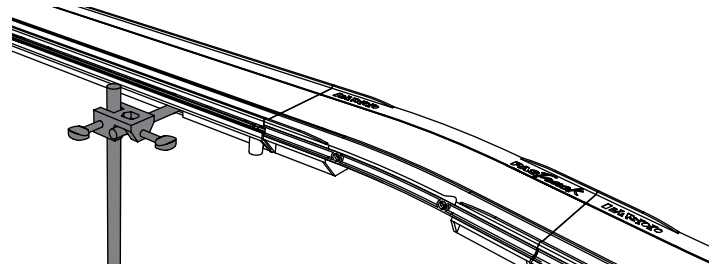

Figure 4: Horizontal Rod
**Horizontal Rod Method** Secure a rod (such as SA-9242) in the built-in rod clamp of the straight section (Figure 4). Use a right-angle clamp (such as SE-9442) to secure this rod on a vertical rod at the desired height.